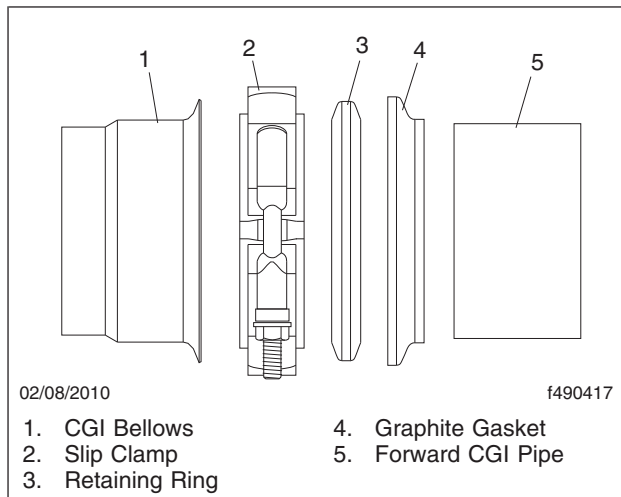

Fig. 12, Forward Facing Slip Clamp Installation
13. Install the slip clamp with the retaining ring and graphite gasket ring onto the forward CGI pipe. See **Fig. 12** for proper installation.